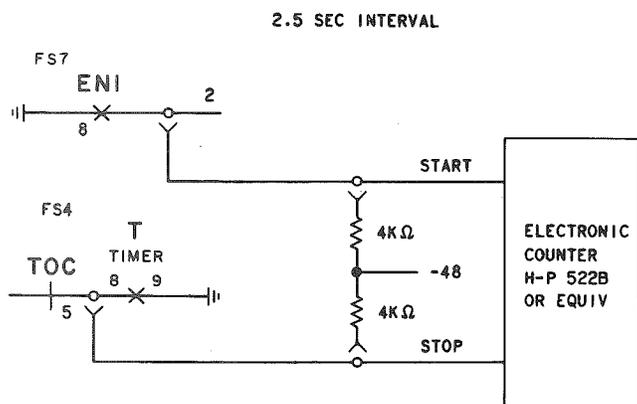

Fig. 1—Typical Connections Using Electronic Counter for Test A
2.05 The 522B electronic counter is an all-purpose vacuum tube model that measures frequency, period, and time interval. Readings are displayed automatically in direct-reading form—Hz, KHz, seconds, or milliseconds. Many electronic counters will work, and for this reason the operation of the counter is not covered in this section. All counters will be connected as shown in Fig. 1 and 2.
the dials to display seconds. Connect the start lead to TST key terminal 2 and the stop lead to contact 8 of T timer on the J1G024A unit. See Fig. 1.